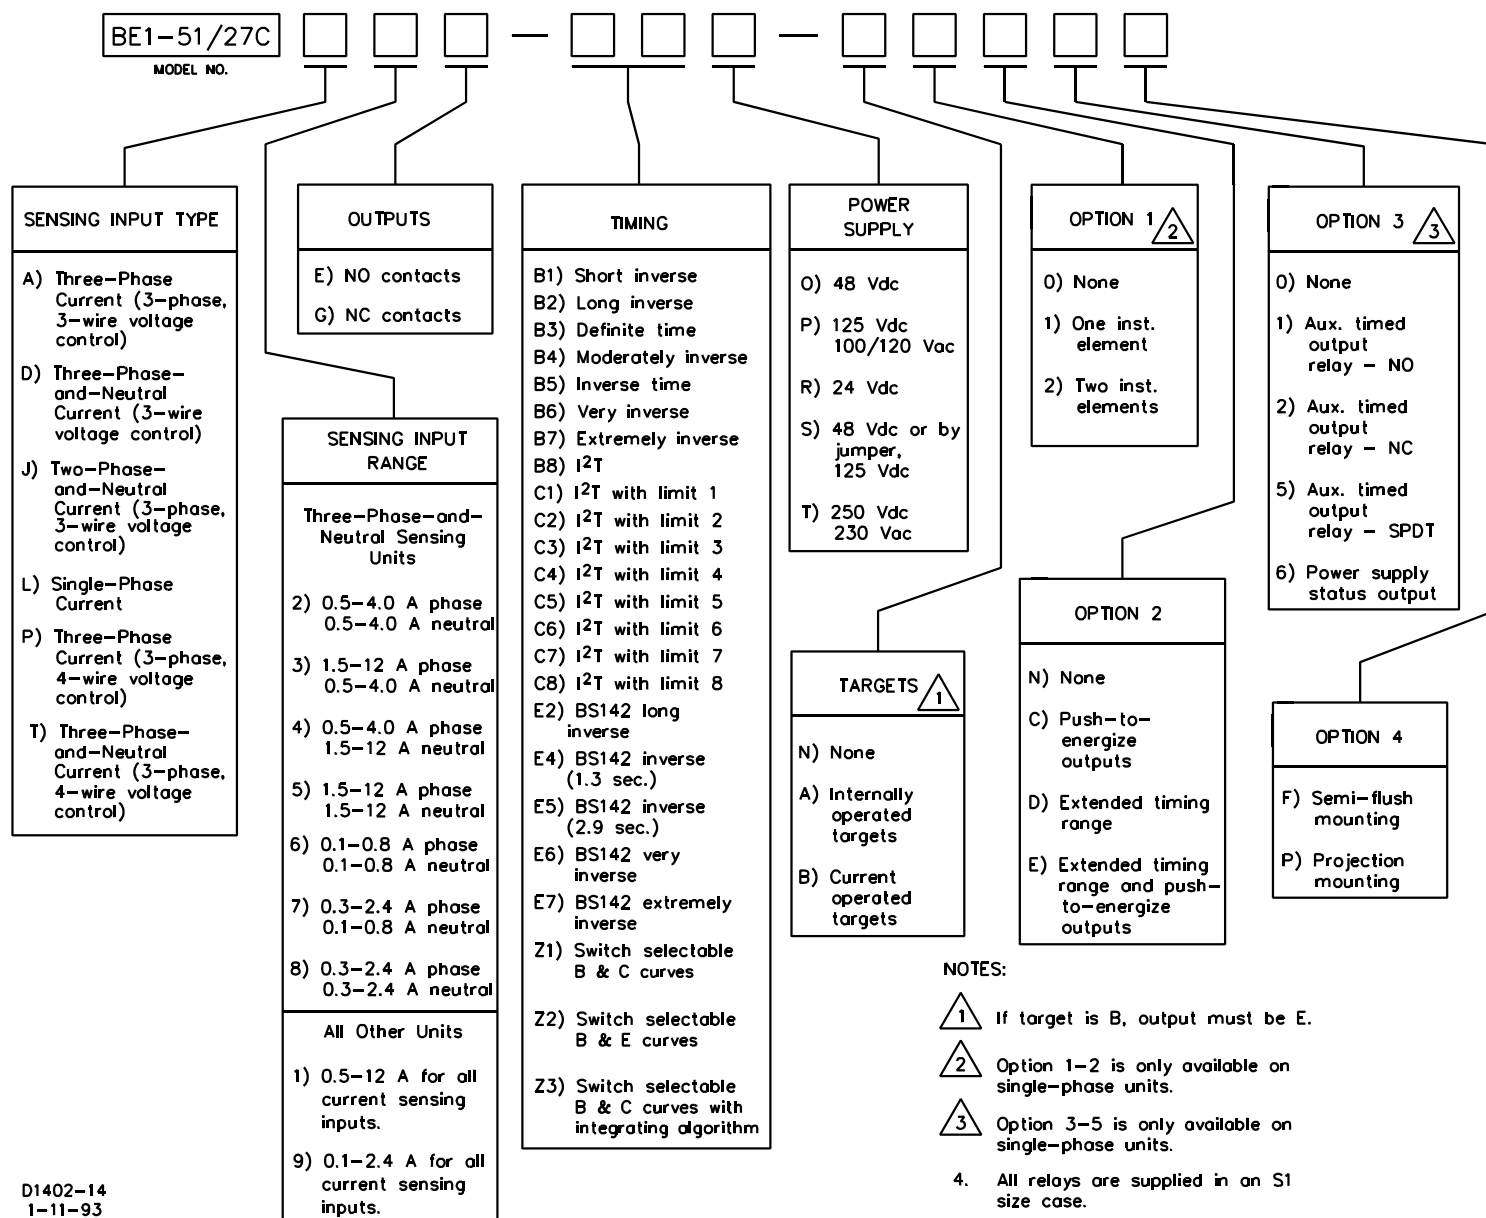

Figure 1-1. Style Number Identification Chart
Style number identification chart (Figure 1-1) defines the electrical characteristics and operational features included in BE1-51/27C relays. For example, if the style number were **T3E Z1P B1C1F**, the device would have the following:
Time Overcurrent Pickup Selection Range	Continuously adjustable over the current sensing input ranges specified in the Style Chart (Figure 1-1).
* The number of phases and neutral sensed by the relay is defined by the sensing input type (See the Style Identification Chart, Figure 1-1).